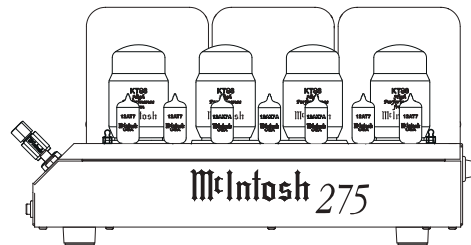

Figure 6
5. Carefully reinstall the previously removed Tube Cover using a Tube Cover Screw on each side of the MC275. Refer to figures 6, 7A, 7B and 8.